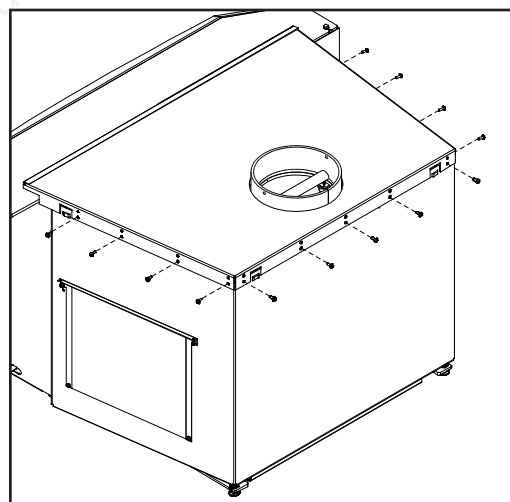

**Figure 7: Bolts to remove.**
- Remove the two lag bolts (shown in Figure 7) that secure the unit to the pallet from inside the firebox.